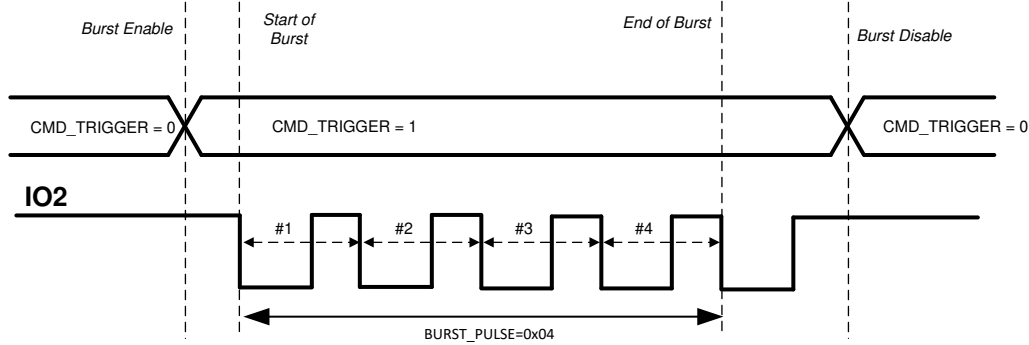

图 7-1. IO\_MODE 0 Description
- **IO\_MODE = 0:** In this mode, the external clock for the transducer is applied at the IO2 pin and the burst mode is enabled by setting the CMD\\_TRIGGER in the TOF\\_CONFIG register through SPI, as shown in 图 7-1. The device then expects a clock at IO2 pin to generate pulses on the OUTA/OUTB pins. The start of burst happens from the first falling edge of IO2. The number of pulses are counted by counting falling edge to next falling edge transitions on IO2 once the start of burst is triggered. The end of burst sequence is signaled when the number of pulses defined in BURST\\_PULSE are sent, or when the CMD\\_TRIGGER = 0 is set through SPI, whichever occurs earlier. TI recommends that IO2 is held high before burst enable to count the number of pulses correctly. After the start of burst, the state of OUTA and OUTB pins are determined by IO1 and IO2 pins. A transition of CMD\\_TRIGGER from high to low to high again is required to initiate a new burst sequence.